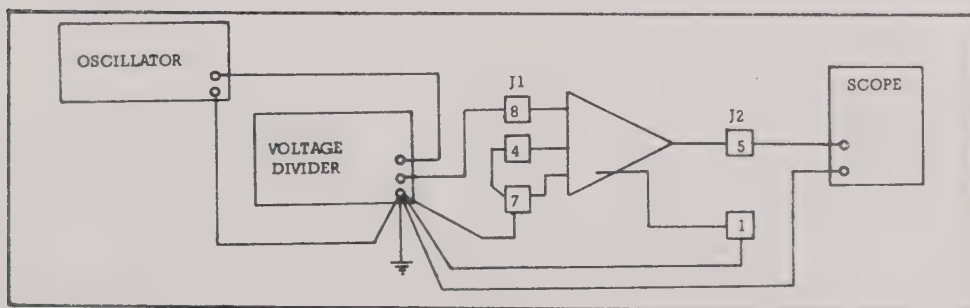

Figure 2.3 - Gain Test Setup
1. Connect the common or ground terminals of each item of test equipment to a single point and to the amplifier output common (pin 1 of J2). Connect this point to ground. Make all measurements relative to this point (see Figure 2.3).